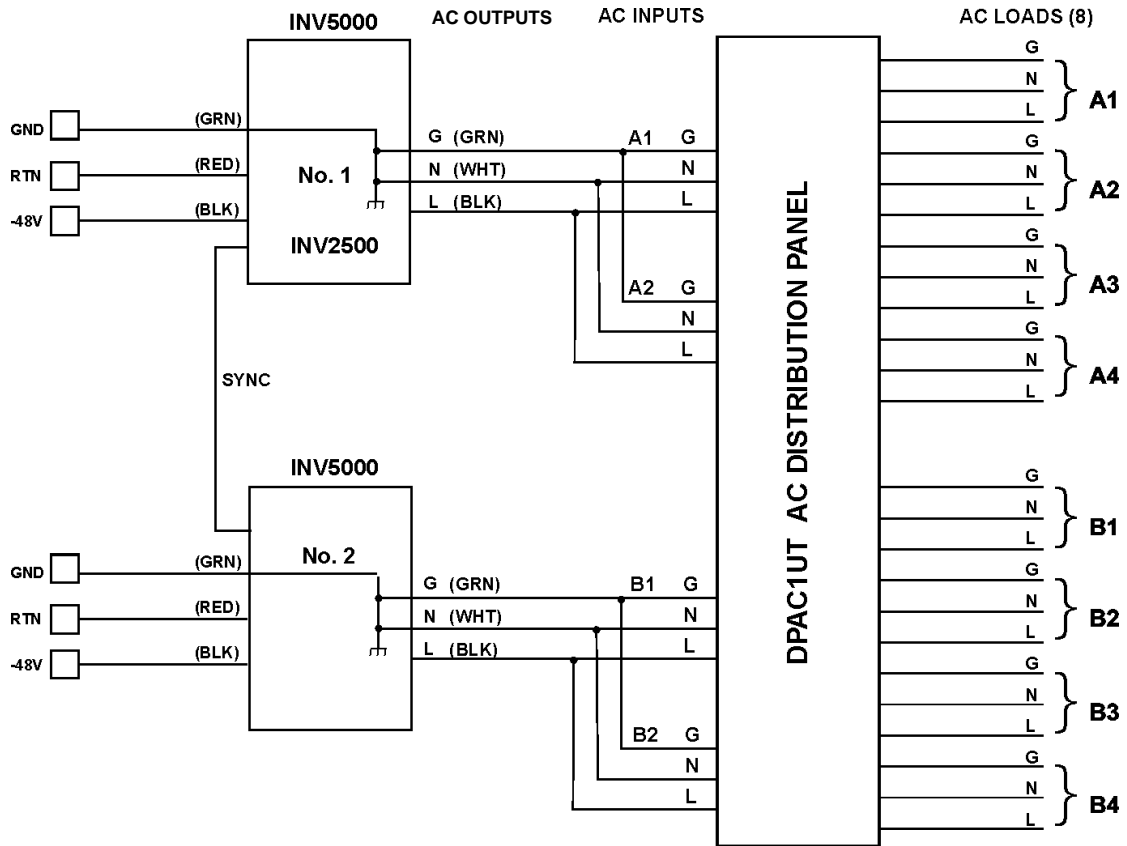

Figure 10. Two 115VAC INV5000s in Parallel Using AC Distribution Panel
- 13.4** Figure 10 shows two INV5000s connected in parallel to give 10KVA of AC output at 115VAC. Note that only 115VAC INV5000s can be used with the DPAC1UT distribution panel and not the 230VAC INV5000s. 230VAC INV5000s require breakers on both line sides, and this is not available with the DPAC1UT. As with the INV2500, the input ground, output ground, chassis ground and AC neutral are all connected in common inside the INV5000 inverter. Note also that only the “T” Option of the DPAC1U can be used with the INV5000 inverters and that as shown in Figure 10, the A side AC input terminals must be strapped in parallel, i.e., A1G to A2G, A1N to A2N and A1L to A2L; in the same way, the B side AC input terminals must also be strapped in parallel.